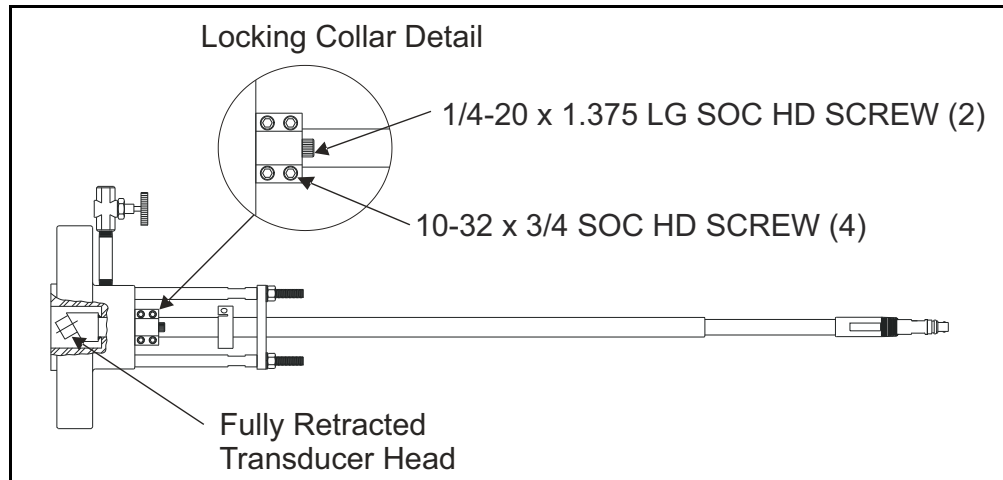

Figure 13: Transducer Head Fully Retracted
2. Make sure the transducer head is fully retracted into the *Low Pressure Assembly (LPA)*. If the transducer is not fully retracted, loosen all the screws of the locking collar and manually retract the transducer into the LPA (see *Figure 13* below).